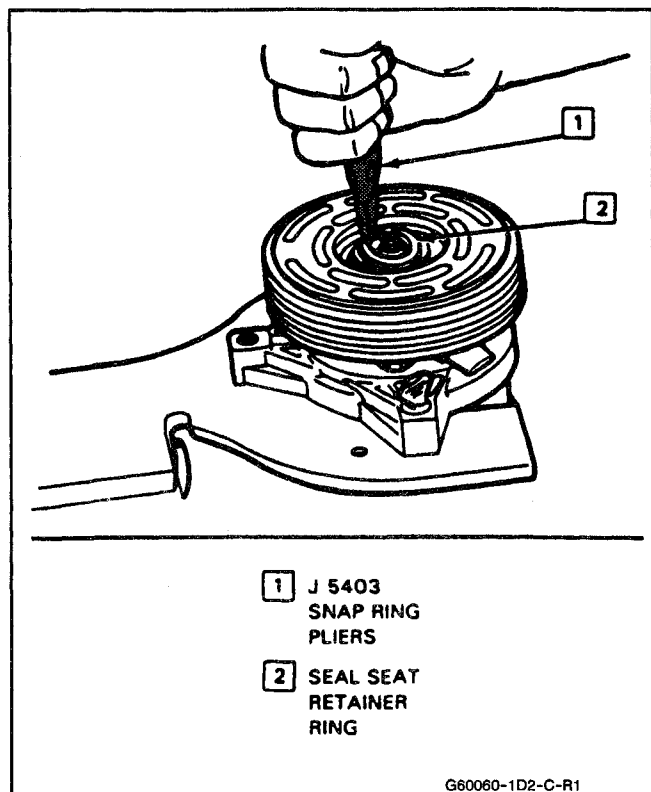

Fig. 21 Removing or Installing Shaft Seal Retaining Ring
4. Remove the shaft seal retainer ring, using snap ring pliers J 5403 (Fig. 21).
4. Install the new seal retainer ring with its flat side against the Seal, using Snap-Ring Pliers J 5403. See Figure 21. Use the sleeve from O-ring installer J 33011 to press in on the seal retainer ring so that it snaps into its groove.